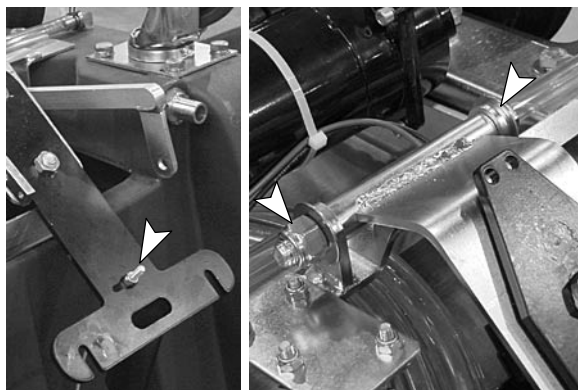

Fig. 1
1. Disconnect the lift cable from the swivel plate, 7/16" wrench required. Remove the old squeegie mount bracket from machine, two 3/4" wrenches required (Figure 1).